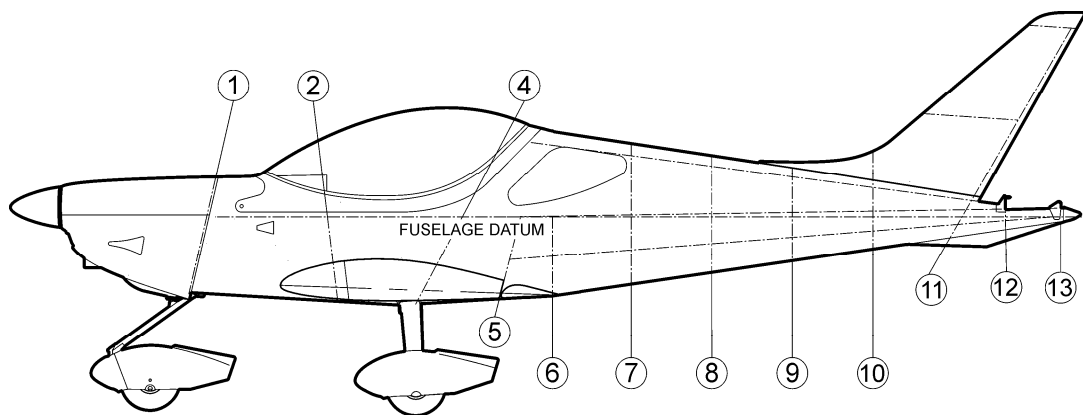
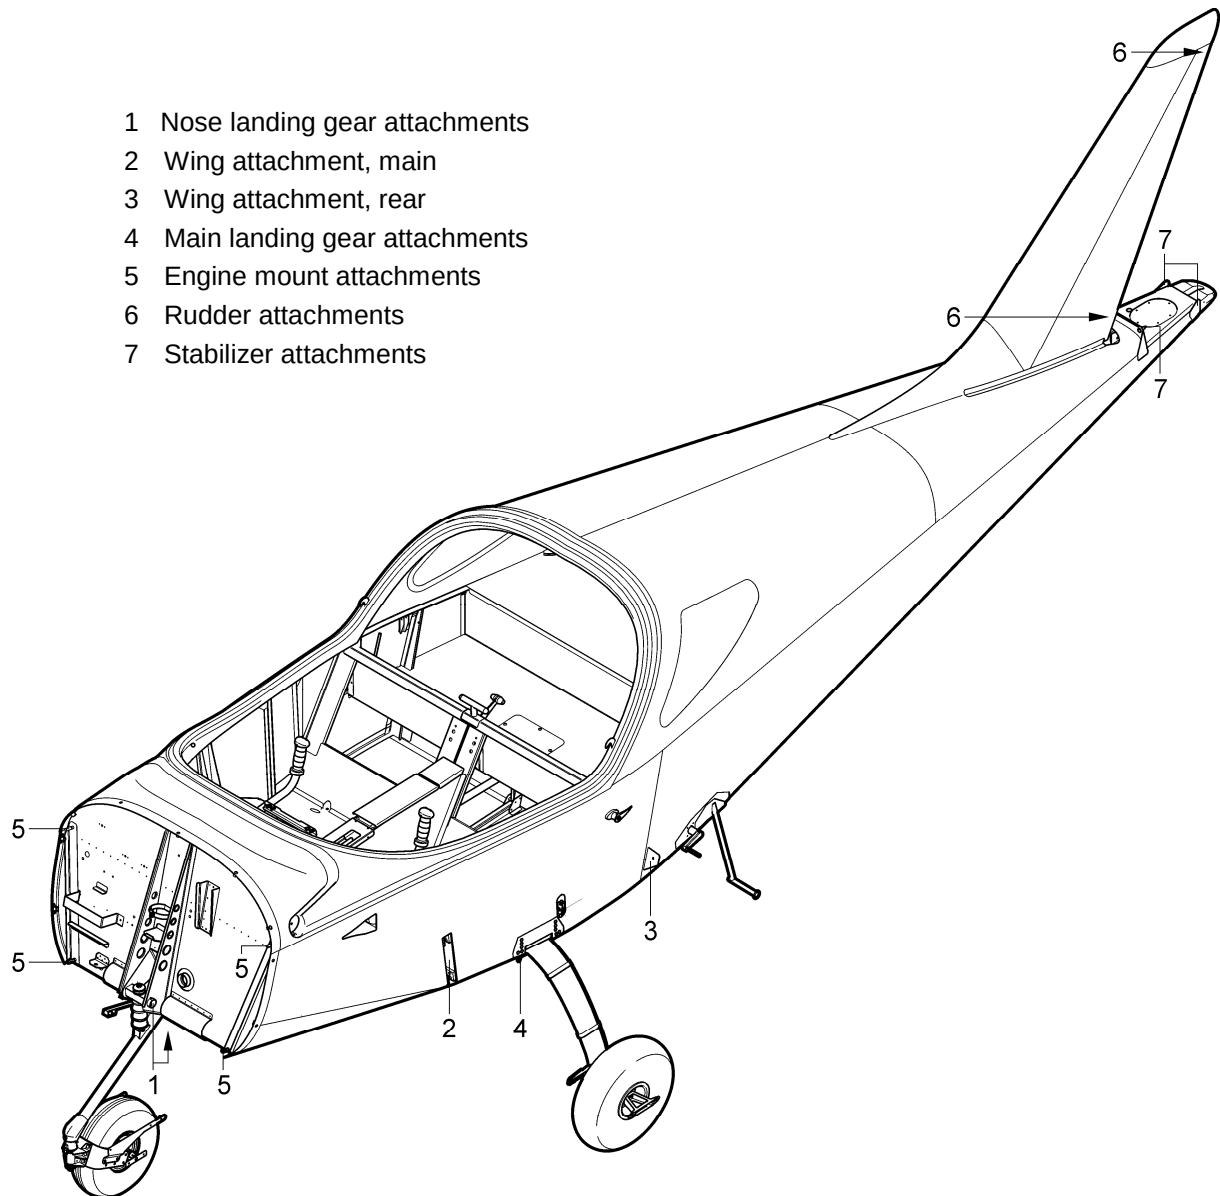

Fig. 3-1: Fuselage layout
Fig. 3-2: Fuselage monocoque
The front part of the fuselage consists of bulkheads No. 1 to 5 (see Fig. 3-1). The nose landing gear attachments (1, Fig. 3-2) are located on the bulkhead No. 1, which also separate the cockpit from the engine compartment. Cockpit with fixed seats is located between bulkheads No. 1 and 5. The baggage compartment is located behind the seats. Center section of wing consists of the main attachments (2) are located between bulkheads No. 2 and 3 and the rear attachment (3), which is located on the bulkhead No. 5, main landing gear attachment points (4) are located behind main center wing spar, the engine mount attachment points (5) are located on the bulkhead No. 1, which is firewall.
The rear part of the fuselage is located in the area from the bulkhead No. 6 up to the bulkhead No. 13 (see Fig. 3-1). It is a semi-monocoque structure formed by stiffeners and aluminum skin. The rear part of fuselage is of elliptic section covered by aluminum sheet. The fin with rudder attachments (6, Fig. 3-2) and stabilizer attachments (7) is an integral part of the rear part of the fuselage. The bulkheads No. 12 and 13 form the stabilizer attachment points.
The cockpit (see Fig. 3-1) is located in the front part of the fuselage between the bulkheads No. 1 and 5. The instrument panel is located between bulkhead No. 1 and frame No. 2. In the middle of the cockpit there is a middle console with control elements. The cockpit is equipped with two fixed seats.
The rear fixed canopy windows consists of two symmetrical windows (7, Fig. 3-2) riveted and glued on the fuselage side skins.